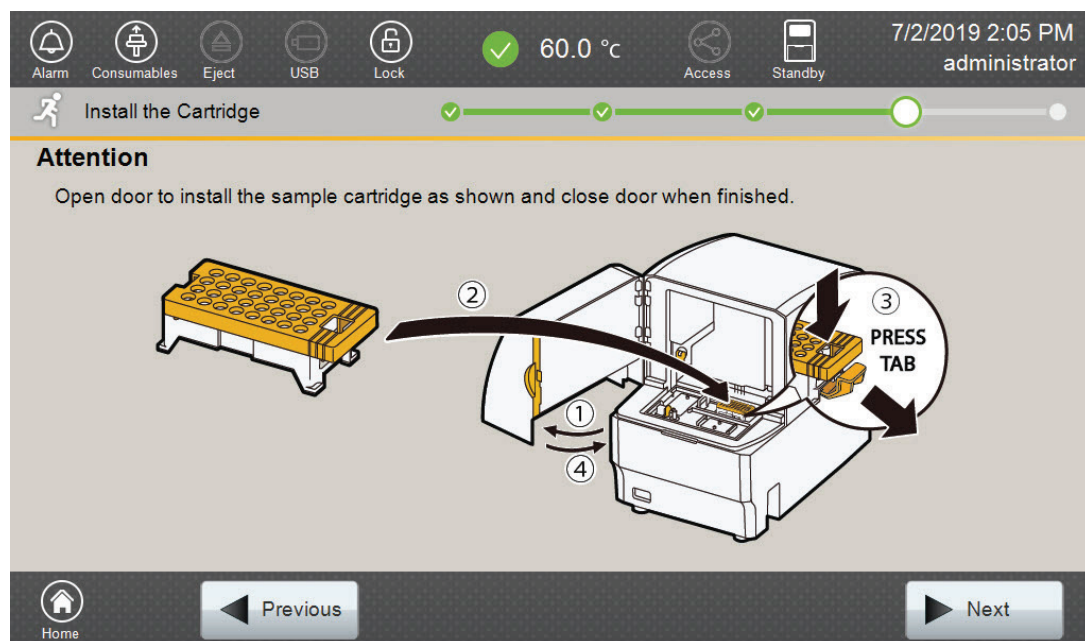

Figure 22. 'Install the Cartridge' screen.
2. Open the instrument door, then place the sample cartridge on the autosampler following the instructions displayed on the 'Install the Cartridge' screen (Figure 22). Press down on the yellow tab on the autosampler deck that locks the sample cartridge in place before placing sample cartridge into position. Release the tab to lock the sample cartridge in place on the autosampler deck.